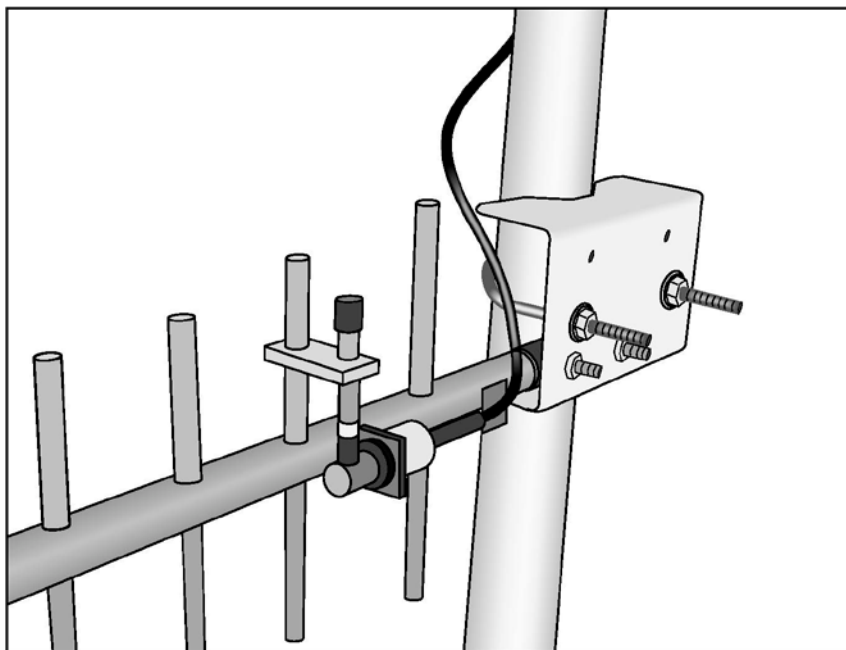

FIGURE 3-10. Cellular Phone Antenna Mounting
- 1) Mount the antenna to the ET Tower as shown in FIGURE 3-10.